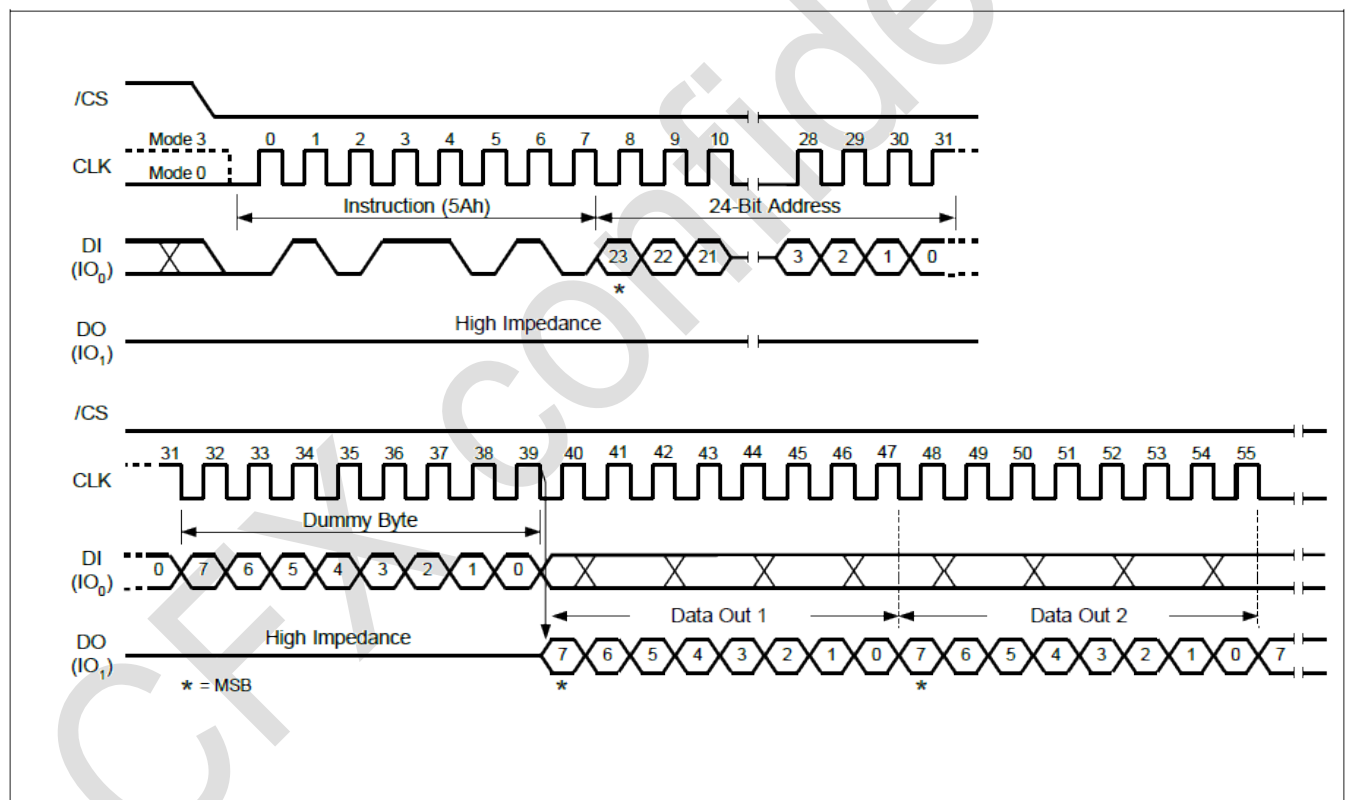

Figure 31. Read SFDP Register Instruction Sequence Diagram
The Read SFDP instruction is initiated by driving the /CS pin low and shifting the instruction code “5Ah” followed by a 24-bit address (A23-A0) (1) into the DI pin. Eight “dummy” clocks are also required before the SFDP register contents are shifted out on the falling edge of the 40th CLK with most significant bit (MSB) first as shown in Figure 31. For SFDP register values and descriptions, please refer to the Chuangfeixin SFDP Definition Table.